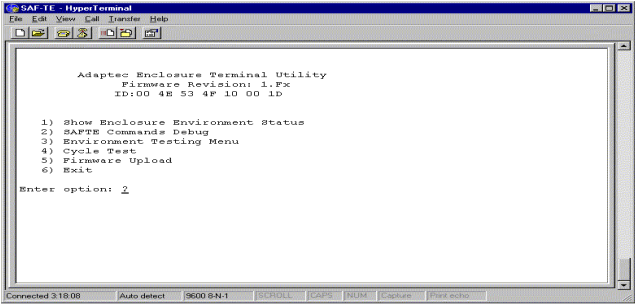

Figure 4-5 Enclosure Terminal Utility Screen
- 5 At the prompt, press **Ctrl+E**. The Enclosure Terminal Utility screen appears, as shown in Figure 4-5 on page 4-10.